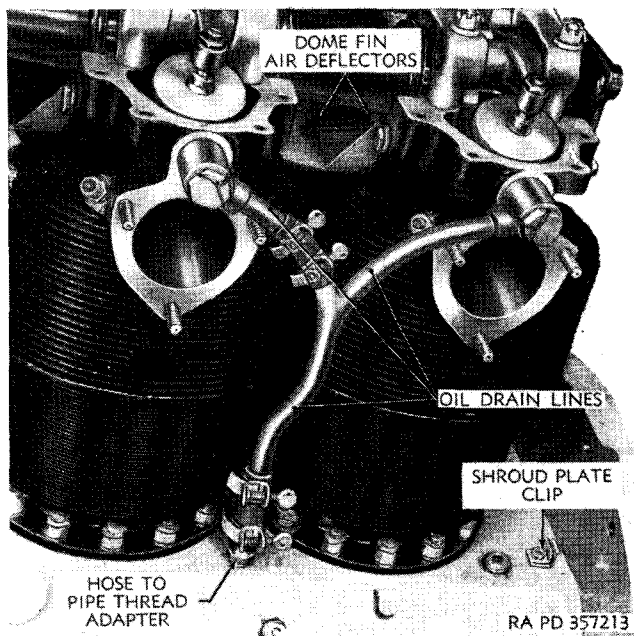

Figure 100. Rocker box oil drain lines.
- (6) Oil for lubrication of both camshafts is picked up from supply lines in the accessory case. Several connecting passages transfer the supply to the camshaft housings and to a groove in the camshaft front bearing which feeds it under pressure to the hollow camshafts. Each bearing area on the camshaft is drilled to lubricate the bearing and also allow flow of oil into grooves in the rocker shaft support brackets. Drilled passages in the brackets conduct the flow to the rocker shafts. The shafts are drilled for lubrication of the rocker bushings. Throw-off oil from the camshafts and rocker rollers lubricates the valve stems. In addition, a drilled oil passage in the cylinder half of the camshaft bearing lubricates the exhaust valve stems.
- (7) Surplus oil from the rocker boxes is returned to the crankcase through external oil drain lines (fig. 100). Surplus oil from